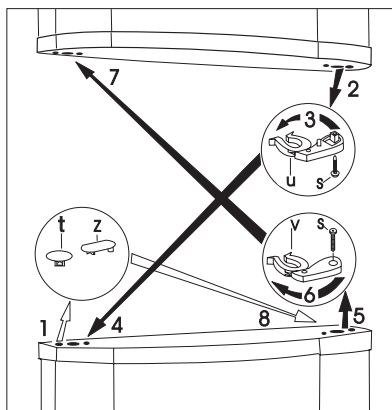

Fig. 4
- Lift out the insert for the lower covering grid (e) using a screw driver (Fig. 4).
- Unscrew the bottom door retaining pin for the freezer door (h, f) and then screw in on the other side. Don't forget the spacer (h) (Fig. 4).
- Place the freezer door on the lower door retaining pin (f) (Fig. 4).